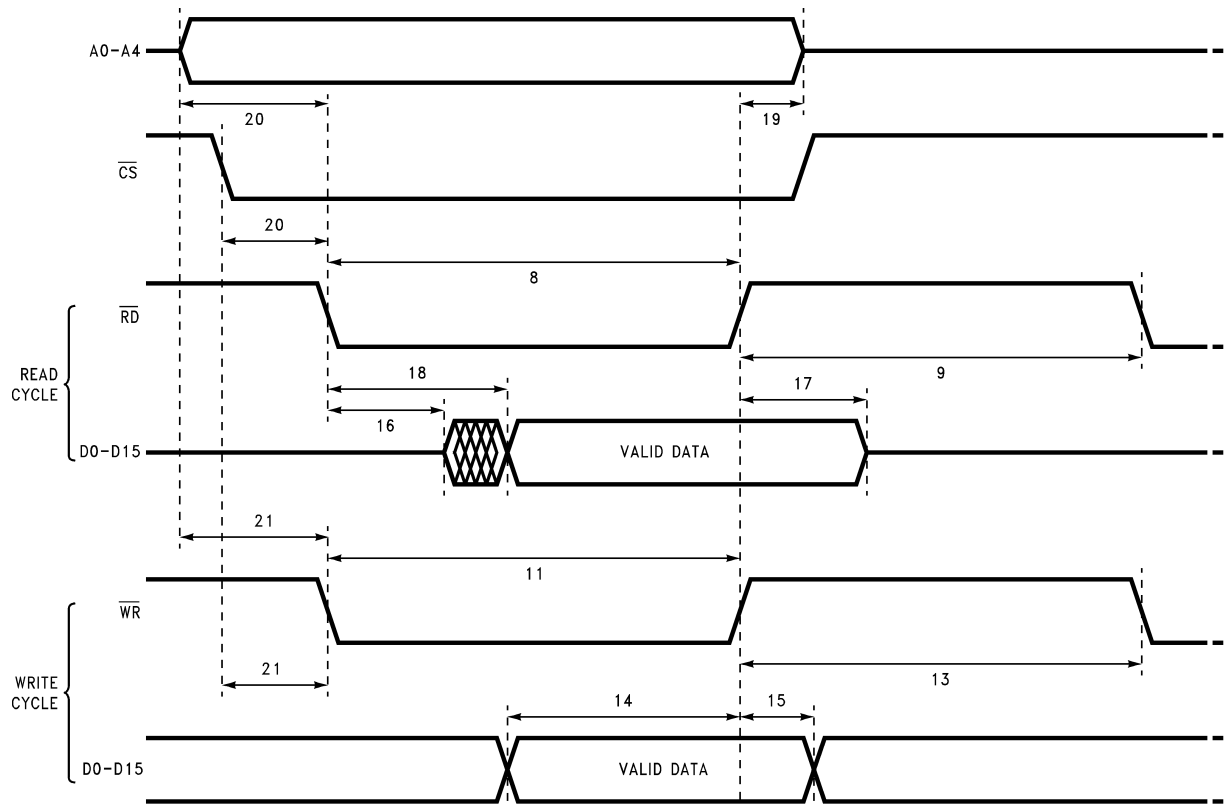

Figure 29. Non-Multiplexed Data Bus (ALE = 1)
- ALE** Address Latch Enable input. It is used in systems containing a multiplexed data bus. When ALE is asserted **high**, the LM12L458 accepts information on the data bus as a valid address. A high-to-low transition will latch the address data on A0–A4 and the logic state on the  $\overline{CS}$  input. Any changes on A0–A4 and  $\overline{CS}$  while ALE is low will not affect the LM12L458. See Figure 28. When a non-multiplexed bus is used, ALE is continuously asserted **high**. See Figure 29.